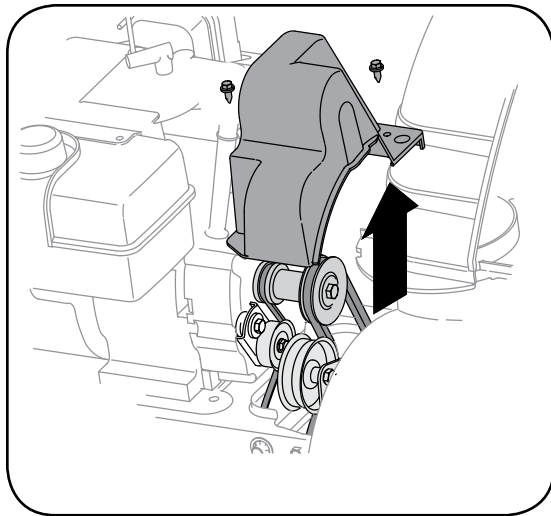

Figure 6-9
1. Remove the plastic belt cover on the front of the engine by removing the two self-tapping screws, Figure 6-9.